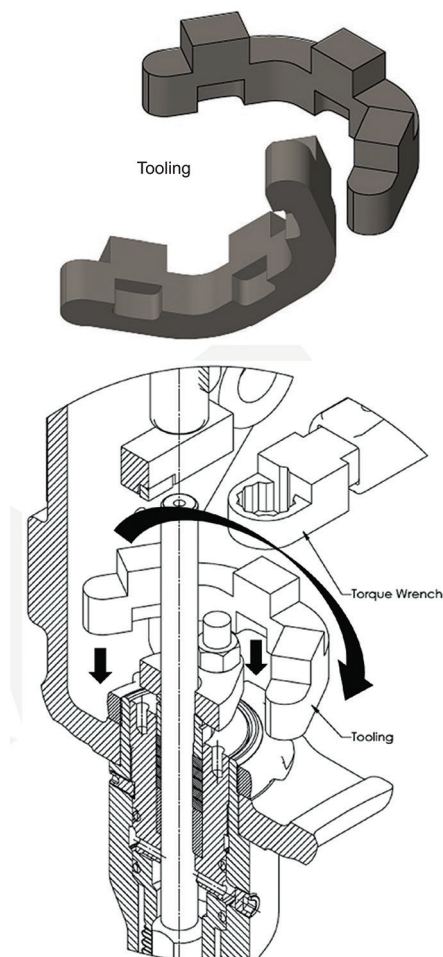

Figure 16 - Drive Nut Tightening Tools
- Tighten drive nut by using tools shown in Figure 16. Tightening torque are indicated in the following table: